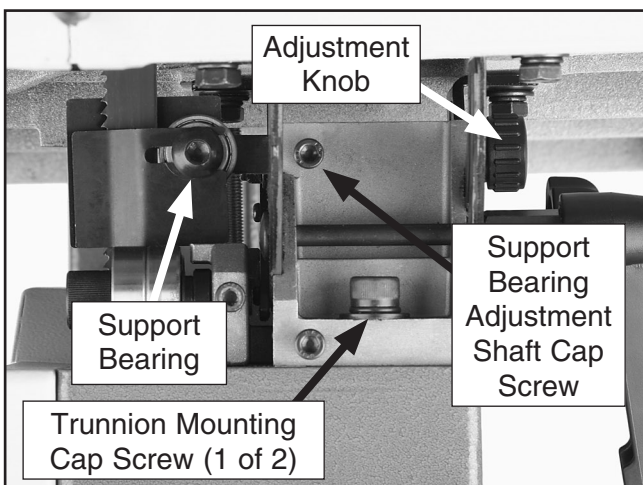

Figure 28. Lower support bearing controls.
3. Familiarize yourself with the lower support bearing controls shown in **Figure 28**.